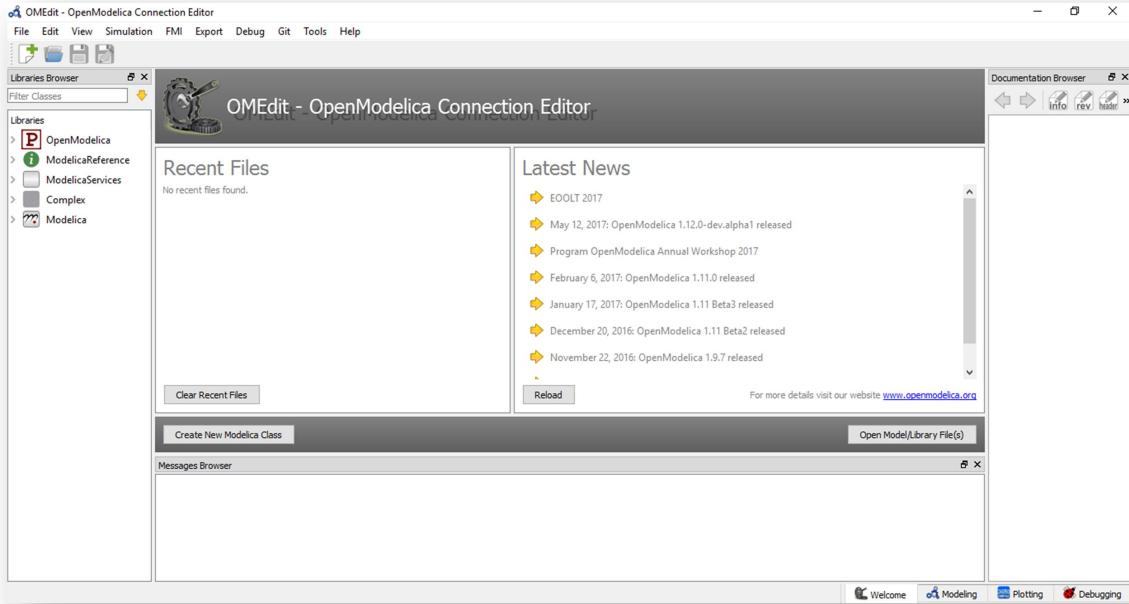

Fig 5. OMEdit
5. The simulation settings can be done by clicking on the ‘S’ symbol (Fig 5). If serial communication is successful, status shown will be zero.
5. The simulation settings can be by clicking on the 'S' symbol (Fig 5).